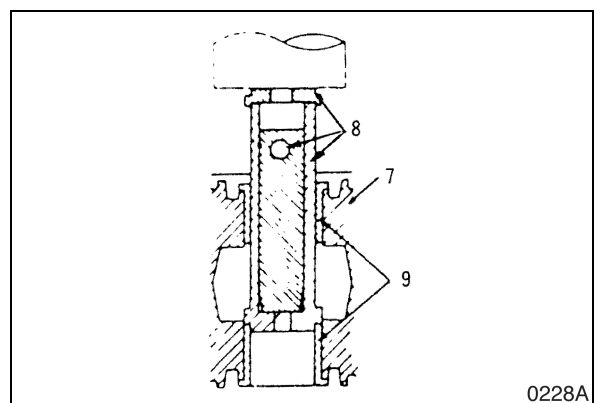

Figure 24
6. Remove bushing (8, Figure 24) with the press and special tool (ST-1909).